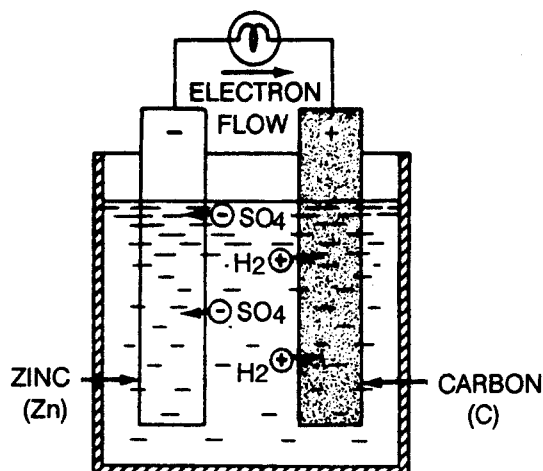

FIGURE 4-1. Simple Voltaic or Galvanic Cell.
A cell is a device that transforms chemical energy into electrical energy. Figure 4-1 shows the simplest cell, known as a galvanic or voltaic cell. It consists of a piece of carbon (C) and a piece of zinc (Zn) suspended in a jar that contains a sulfuric acid solution (H_2SO_4), called the electrolyte.
When a current flows through a primary cell having carbon and zinc electrodes and a diluted solution of sulfuric acid and water (combined to form the electrolyte), the following chemical reaction takes place. The current flow through the load is the movement of electrons from the negative electrode (zinc) of the cell to the positive electrode (carbon). This causes fewer electrons in the zinc and an excess of electrons in the carbon. Figure 4-1 shows the hydrogen ions (H_2) from the sulfuric acid being attracted to the carbon electrode. Since the hydrogen ions are positively charged, they are attracted to the negative charge on the carbon electrode. The excess of electrons causes this negative charge. The zinc electrode has a positive charge because it has lost electrons to the carbon electrode. This positive charge attracts the negative ions (SO_4) from the sulfuric acid. The negative ions combine with the zinc to form zinc sulfate. This action causes the zinc electrode to be eaten away. Zinc sulfate is a grayish-white substance that is sometimes seen on the battery post of an automobile battery.
In Figure 4-1, the zinc electrode is labeled negative, and the carbon electrode is labeled positive. This represents the current flow outside the cell from negative to positive.